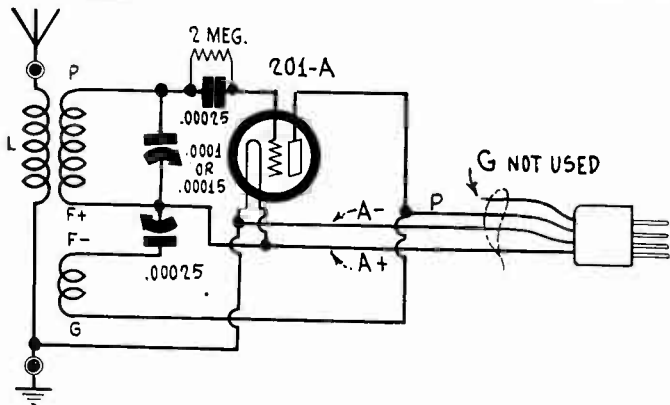
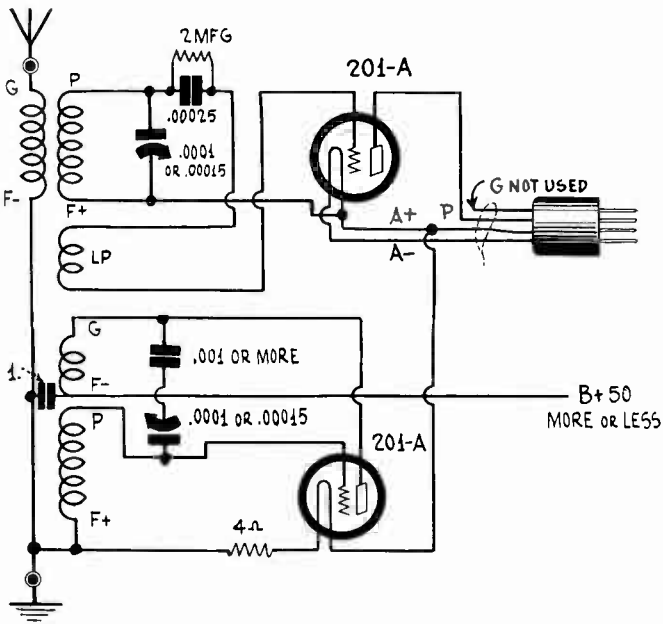
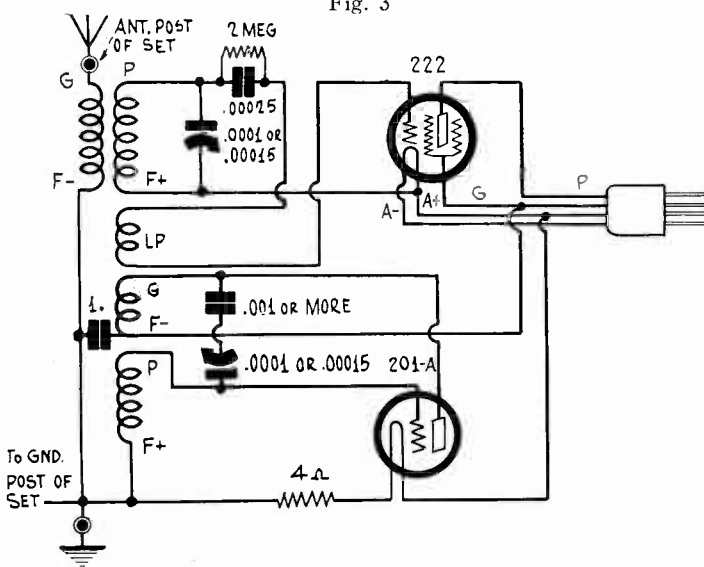

Fig. 1
Fig. 3
Fig. 4
ELEVEN different designs for short wave adapters are illustrated herewith. In Figs. 1, 2, 3, 4, 5 and 6 a plug cable is used, and the circuits are shown for AC and battery-operated filament tubes. The constants are given except for the coils. All eleven adapters use the same coils, that fit in four-prong (UX) sockets, so provide two of these sockets for each adapter. The theory of all the adapters except Figs. 1 and 2, is that a mixer is built, so that your broadcast receiver, tuned to its most sensitive frequency (usually the highest frequency, around 1,700 kc.) serves as intermediate frequency amplifier, second detector and audio amplifier. So plug into the detector socket for Figs. 1 and 2 and into the first RF socket for Figs. 3, 4, 5 and 6.
In Figs. 1 and 2 there is an extra coil, L. This consists of 10 turns of wire, any insulated kind, of No. 28 or larger diameter, on a 1 1/2" form, and is placed over the socket, to be in inductive relationship to the coil that goes into that socket.
Fig. 1 is for battery sets having a 201A detector. Plug into the detector socket.
Fig. 3 is for battery sets with 201A as first RF. Plug into the first RF socket and supply about 50 volts from the B battery (45 will do) for the lead marked "B+50 more or less."
Fig. 4 is for sets having 222 screen grid tube as first RF, otherwise similar to Fig. 3.